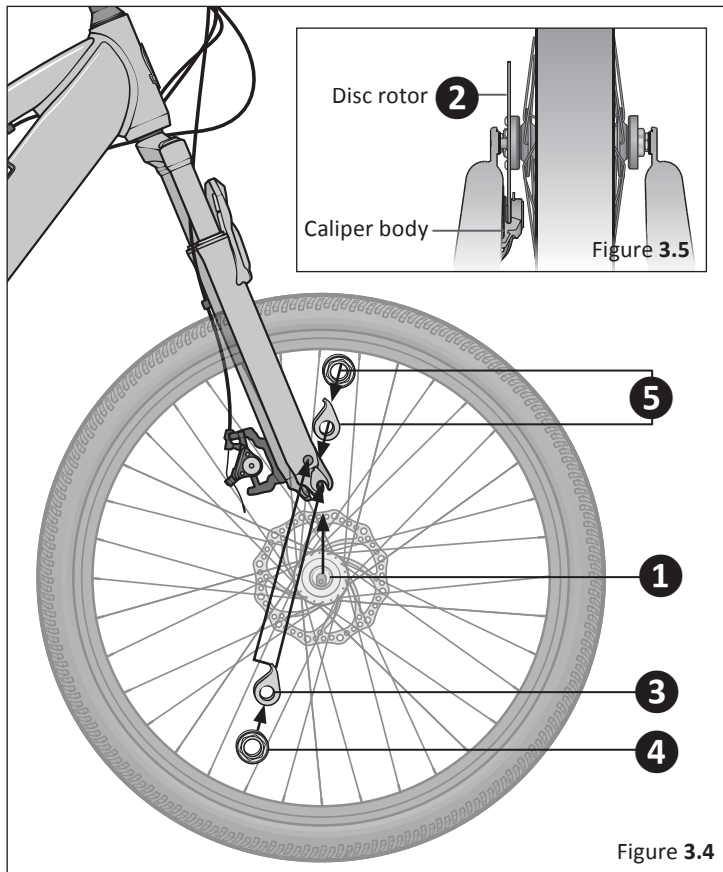

Figure 3.4
- 1** Place the front wheel into the fork openings. Be sure both sides of the axle rest on the fork and the wheel is centered. **Figure 3.4**